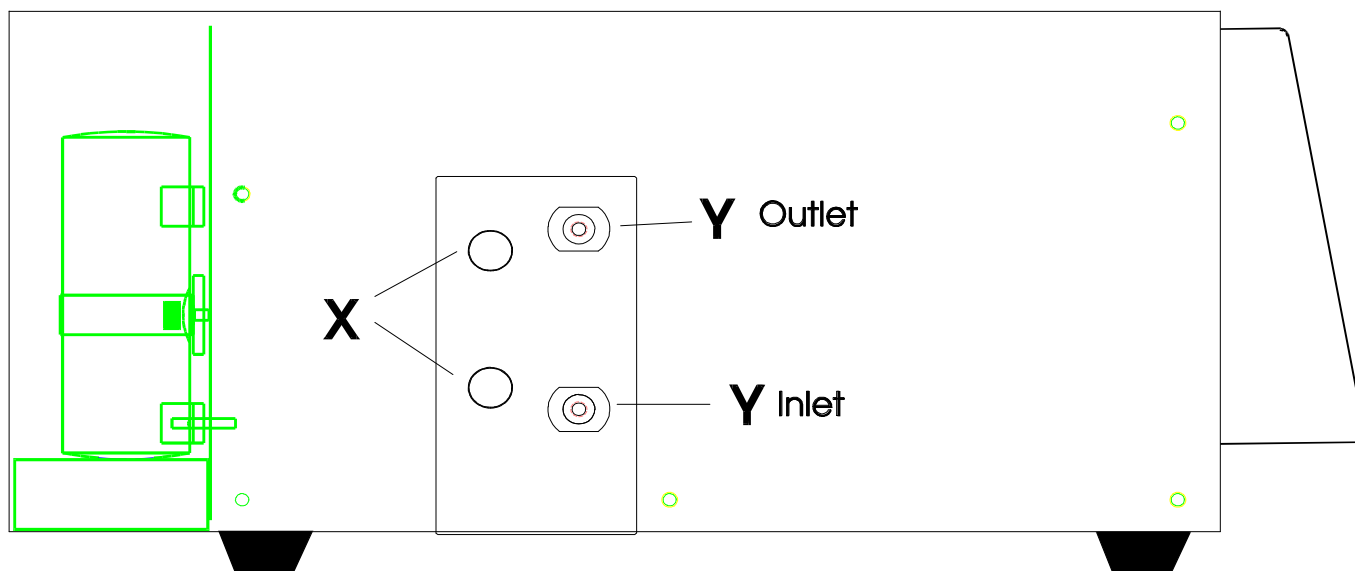

Figure 3 Side Panel
Figure 3 shows the side panel. An analytical flowcell is shown in its mounted position with the cover on. Thumbscrews (X) hold the cell assembly on the monochromator. The bulkhead fittings (Y) enable plumbing the unit from the column and to waste or other system components. The lamp and fan assembly are shown for reference. The lamp is located behind and under the cover to preclude possible side/top damage, as well as to prevent stray ultraviolet energy from causing operator injury.